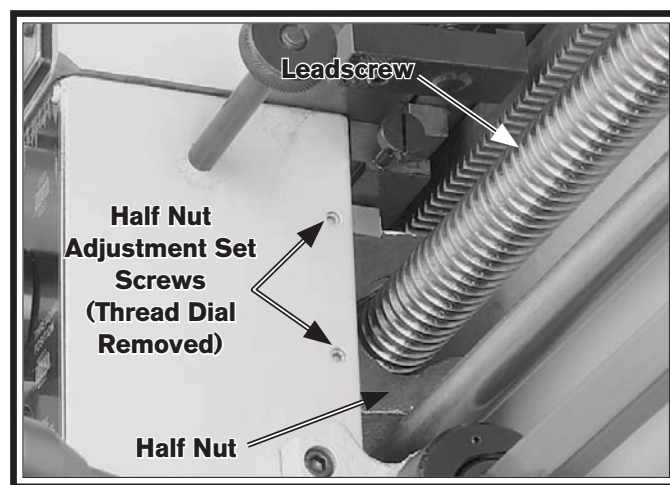

Figure 132. Half nut gib adjustment.
3. Turn the two half-nut adjustment set screws, shown in **Figure 132**, clockwise about an $\frac{1}{8}$ th of a turn.